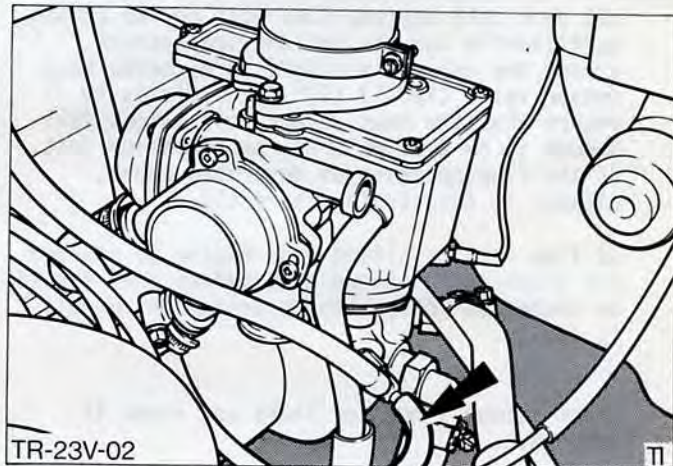

Fig.37. Air cleaner vacuum supply hose connection.
7. Reconnect vacuum supply pipe to manifold connection, Fig.37, and position cleaner ensuring air hose connects correctly on manifold location.